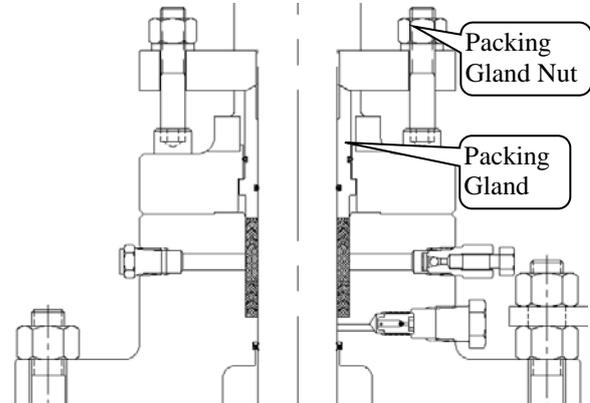

Figure 6
- b) The stem is sealed with a unique design reinforced PTFE stem packing to provide excellent resistance to chemicals and corrosive elements as shown in Figure 6. The packing box has provision for emergency stem sealant injection in case of a stem packing leakage. In addition, packing can also be energized by tightening two packing gland nuts as shown in Figure 6. Thus the stem sealing has multiple emergency contingency in case of a leakage.